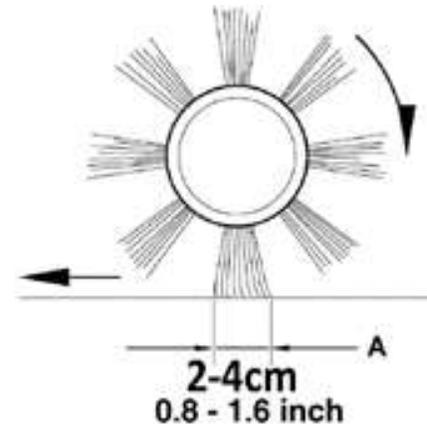

Figure1
- Check that the main brush print (A, fig. 1), along its length is 0.8 to 1.6 in (2 to 4 cm) wide.
- If the print (A) is not within specifications, adjust the brush height as shown in step 2.